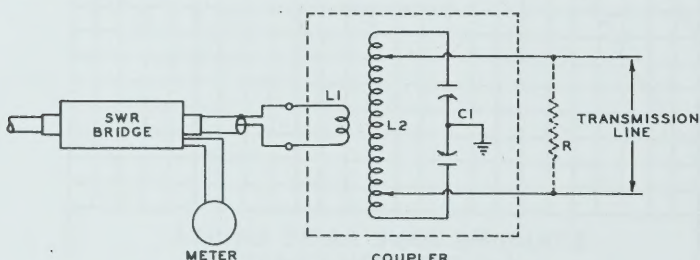

FIG. 3
is a device for matching or transforming the antenna system impedance (at the feed point) to the output impedance of the transmitter. The typical coupler illustrated in Fig. 3 is resonant at the operating frequency. The degree of coupling to the transmitter must be adjusted either by L_1 or some means within the transmitter such as a pi-network output circuit, variable link or other variable coupling device. The bridge should be installed between the low power
r. f. source of not more than one watt and the coupler input as in Fig. 3.